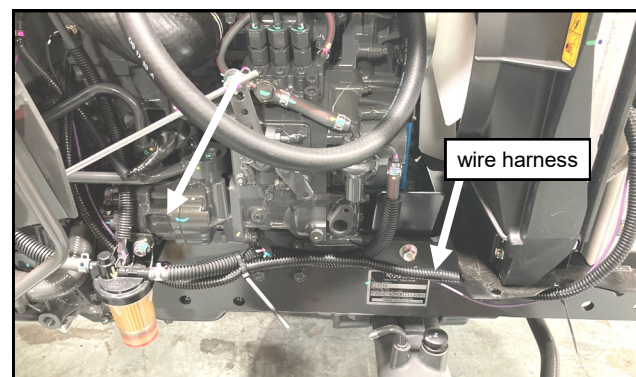

Fig. 11.4 (wire harness - right side of engine bay)
**11.4** Route the wires along the right side of the tractor away from any moving parts, toward the front of the tractor, and secure with wire ties. See fig. 11.4.